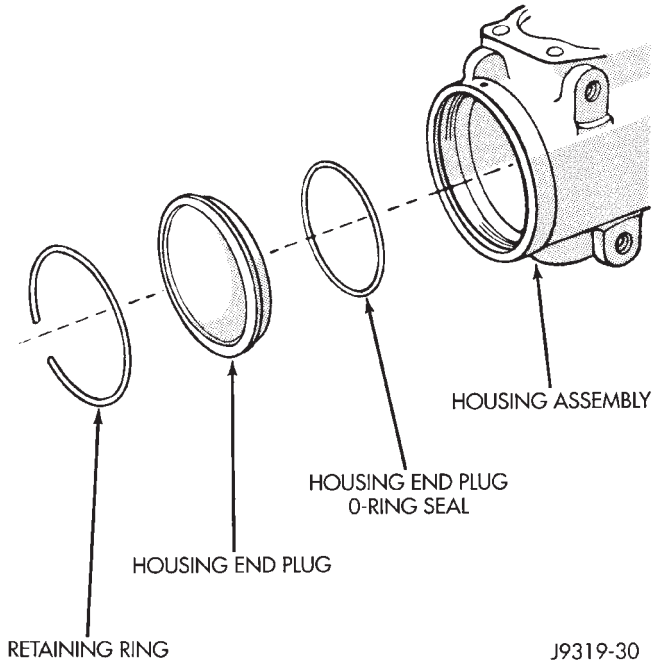

Fig. 17 End Plug Components
- (2) Rotate stub shaft slowly COUNTER-CLOCKWISE to remove end plug out from housing (Fig. 17).
(3) Remove O-ring seal (Fig. 17).